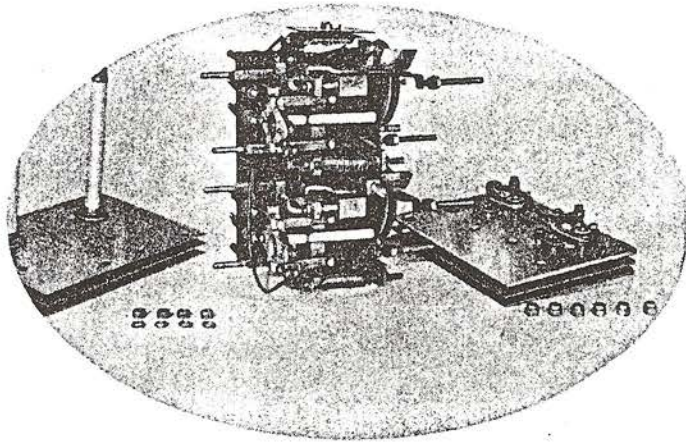

FIG.7
- (1) Disconnect the battery.
- (2) Remove the six 2BA nuts from the studs which secure the right-hand fin assembly.
- (3) Remove the right-hand fin assembly by drawing it off the conical ends of the mounting studs.
- (4) Slide the carbons off the refractory insulating tubes and store in a safe place, such as a spare pile container.
- (5) On the left-hand side of fins, remove the four 2BA round nuts and lock-washers. The left-hand fins can then be withdrawn with the pile rods. (See Fig.7).